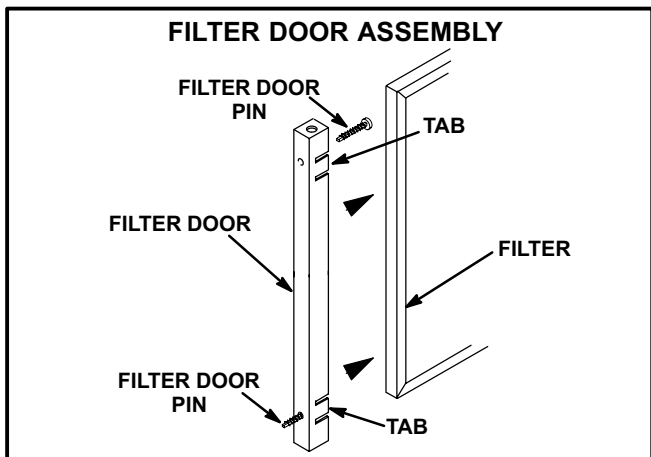

FIGURE 6
- 3 - Push filter door pins through the two holes in filter rack door from the inside of the u-channel. See figure 6.